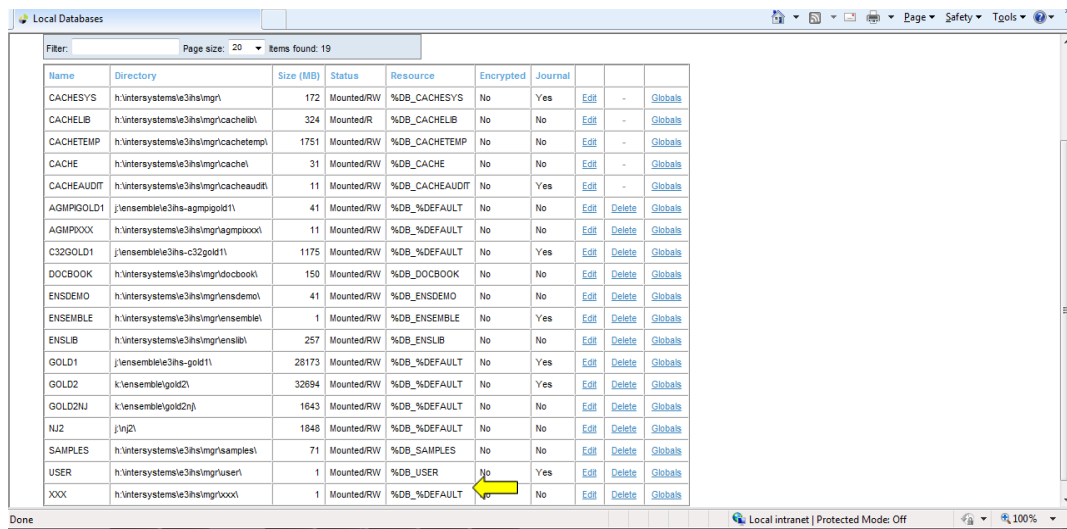

Figure 4-8: Finding the RPMS database resource
2. On the **Local Databases** page, locate the production RPMS database in the list and make a note of the resource associated with the database, as shown in Figure 4-8.